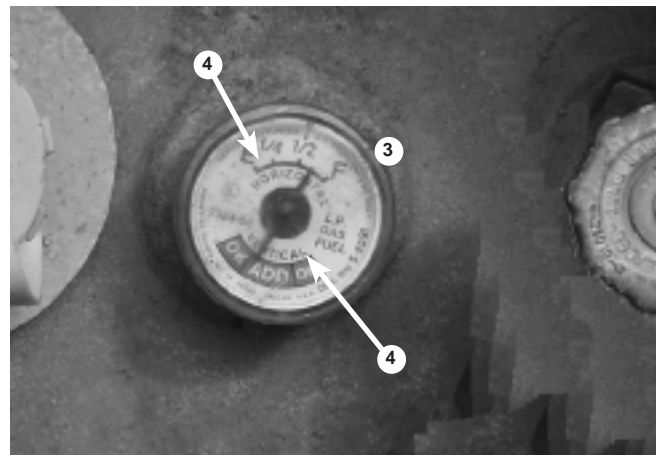

Figure 11.10 - Fuel Level Gauge
Check the level of gasoline in the fuel tank and / or the amount of LP gas in the cylinder(s). To check the amount of LP gas read the fuel meter (3) (see figure 11.10).
LPG tanks have two (2) fuel gauges on top. One measures correctly when the tank is standing on end (vertical) (2), the other measures correctly when the tank is laying down (horizontal) (1). Both read in fractions-of-a-full-tank (see figure 11.10).